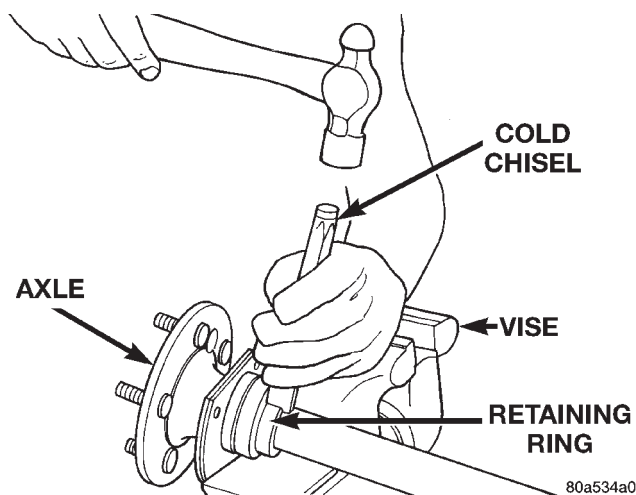
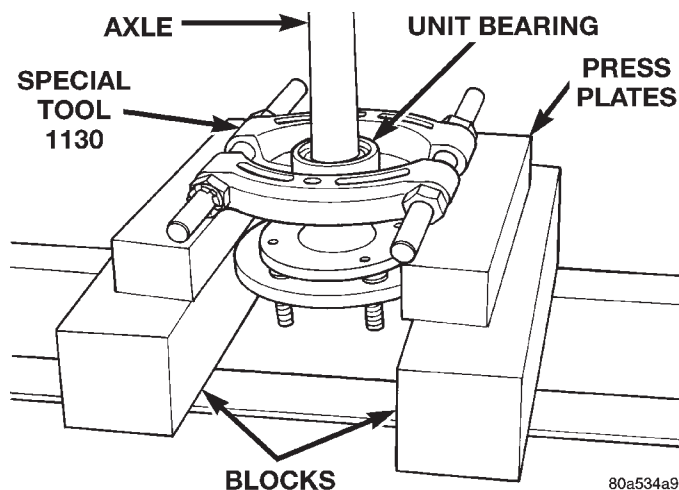

Fig. 13 Cut Retaining Ring
Fig. 14 Axle Bearing and Seal Remove
- (3) Using a suitable cold chisel, cut retaining ring across drilled hole. (Fig. 13)
- (4) Slide retaining ring from axle shaft.
- (5) Using Splitter 1130 placed between the seal and bearing and a suitable Arbor Press, press unit bearing from axle shaft (Fig. 14).
- (6) Slide seal from axle.
- (7) Slide retaining plate from axle shaft.